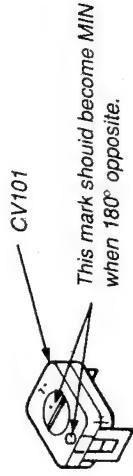

Fig. 4-2.
2. Adjust CV101 so that minimum as shown in Fig. 4-2.